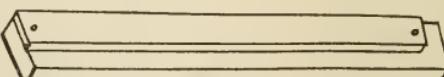
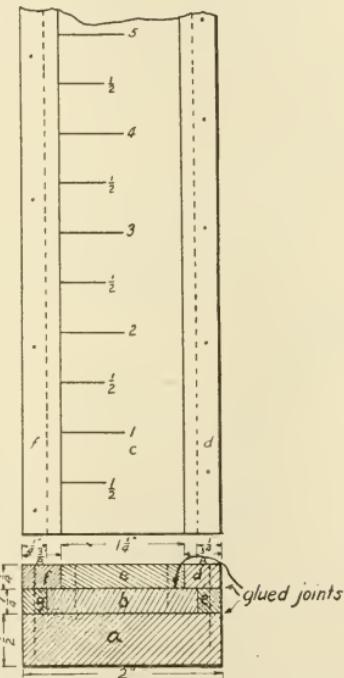
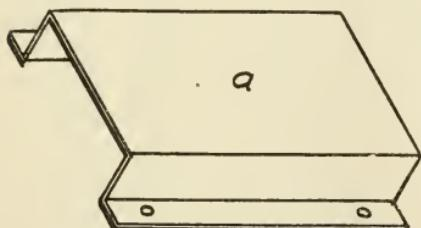

FIG. 90.—HOLDING A THIN STRIP FOR PLANING.
FIG. 91.—DETAILS OF LEVELING ROD.
FIG. 92.—STIRRUP FOR LEVELING ROD.
Plane up the piece *a*, Fig. 91, to size, following the directions given in previous lessons as to planing up
stock. The dimensions of this piece will be $\frac{1}{2}'' \times 2'' \times 5' 6''$. As it is a thin, narrow piece, it is apt to buckle and break in planing. To prevent this, fasten the two ends to a board, as shown in Fig. 90, by boring $\frac{3}{8}''$ holes through the piece and board and driving hardwood pegs in flush with the top of the piece to be planed. Very thin lumber can be surfaced this way, and all the pieces in this exercise can be planed on the same board with the same pegs and board. Each of strips *d*, *e*, *f*, and *g*, Fig. 91, are $\frac{1}{4}''$ thick and so can be planed in one strip and cut apart afterwards. In cutting apart the strips, some lumber will be wasted, as the edges must be planed, so it will be necessary to allow for this waste and make the piece from which they are cut $1\frac{1}{2}''$ wide, although the sum of the widths is only $1\frac{1}{4}''$.
2. Assembling all pieces and shellacking. — Strip *c* should now be glued and nailed to strip *b* in the position shown in Fig. 91, end view.
screws can be driven to hold it to the target. (See Fig. 92.) Drill two holes in each flange large enough to fit the $\frac{1}{4}$ " screws. With the hammer, dent in the surface from the outside a little at *a*; this will make it bind on the rod and cause it to stay wherever placed without holding. Saw off the top 6" of the part *adefg*, Fig. 91, and fasten to part *bc* with two screws.